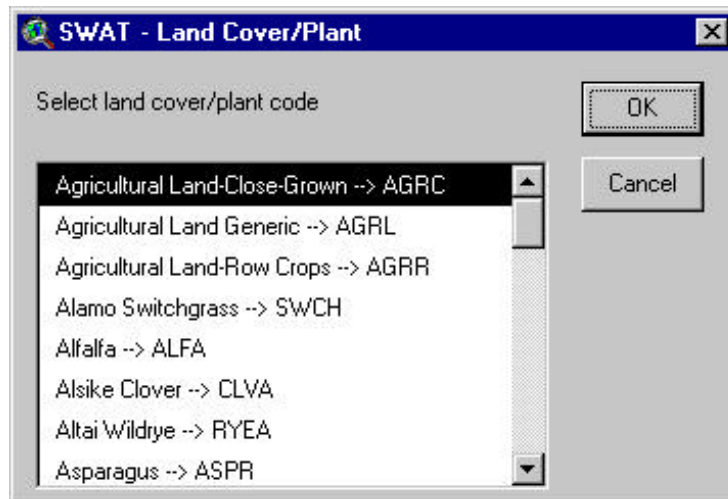
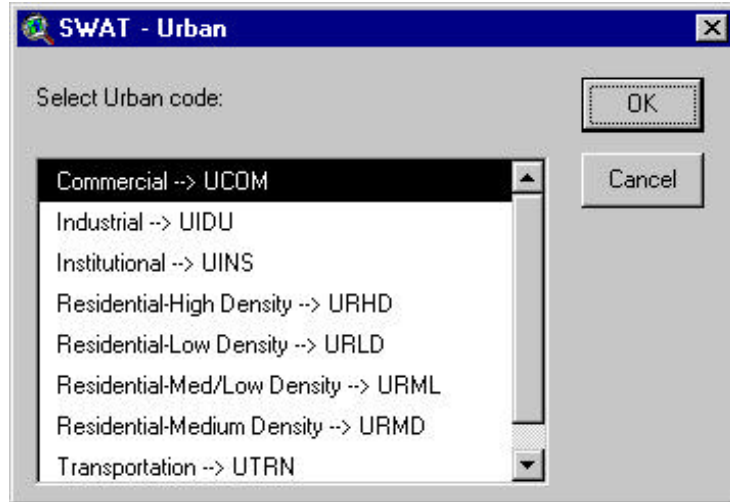

Figure 6.18
Figure 6.19
- c. Highlight the desired database file by clicking on it. Click **OK** (or **Cancel** to exit). A dialog box will pop up listing the available SWAT land cover codes (Figure 6.18) or the available SWAT urban land type codes (Figure 6.19).